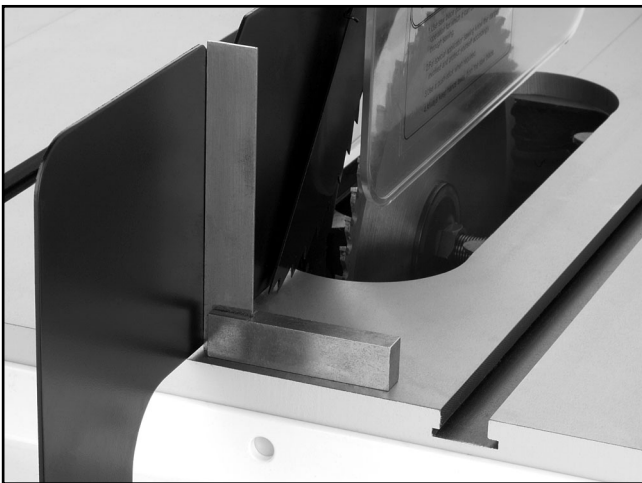

Figure 32. Blade guard perpendicular to the table.
6. Using a machinist's or a combination square, align the face of the blade guard perpendicular to the table surface (**Figure 32**).